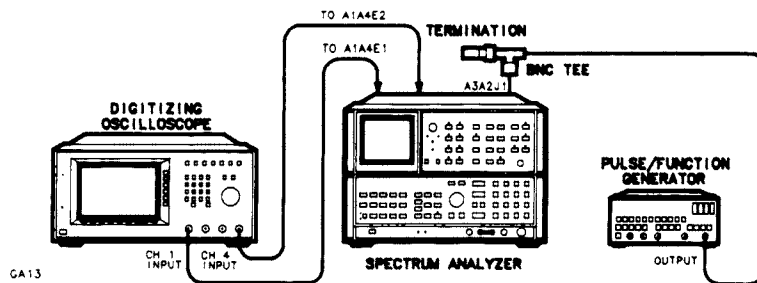
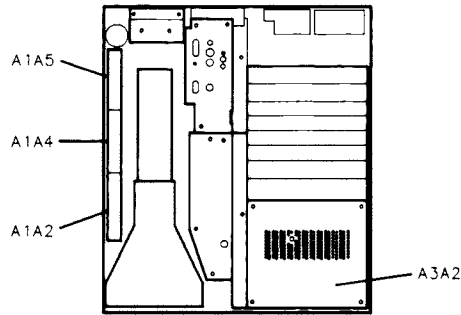
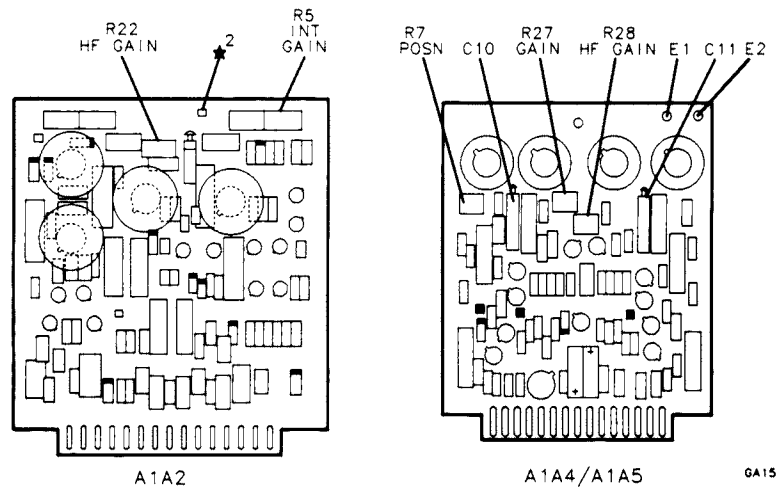
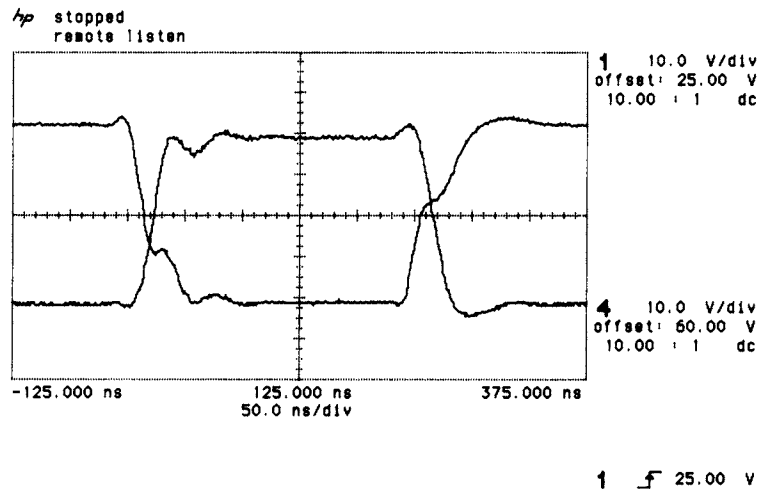

Figure 3-16. Preliminary Display Adjustments Setup
Figure 3-17. Location of A1A2, A1A4, A1A5, and A3A2
Figure 3-18. A1A2, A1A4, and A1A5 Adjustment Locations
Figure 3-19. X+ and X- Waveforms
8. Connect the channel 1 10:1 divider probe to A1A4E1, and the channel 4 probe to A1A4E2, as shown in Figure 3-16. Connect the probe ground leads to chassis ground. See Figure 3-17 and Figure 3-18 for the location of the assemblies and test points.
9. Set the spectrum analyzer LINE switch to STANDBY. Remove the cover over A3 Digital Storage Section and remove A3A2 Intensity Control Assembly. Insert the Display Adjustment PC board (HP part number 85662-60088) into the A3A2 slot. See Figure 3-17 for the location of the A3A2 assembly.
11. Connect the output of the pulse/function generator to J1 (X input) on the Display Adjustment PC board in the A3A2 slot as shown in Figure 3-16.
14. The X+ deflection and X- deflection waveforms should be superimposed on the oscilloscope display, as shown in Figure 3-19. If necessary, adjust A1A4R7 X POSN and A1A4R27 X GAIN for a centered display of at least four vertical divisions. See Figure 3-18 for the location of the adjustments.
17. Adjust A1A4R28 HF GAIN, A1A4C10, and A1A4C11 for minimum overshoot and minimum rise and fall times of the composite X-deflection waveform. See Figure 3-18 for the location of the adjustments.
19. Connect the oscilloscope channel 1 probe to A1A5E1 and the channel 4 probe to A1A5E2. See Figure 3-18 for the location of the test points. Connect the output of the pulse/function generator to J2 (Y input) on the Display Adjustment PC board in the A3A2 slot.